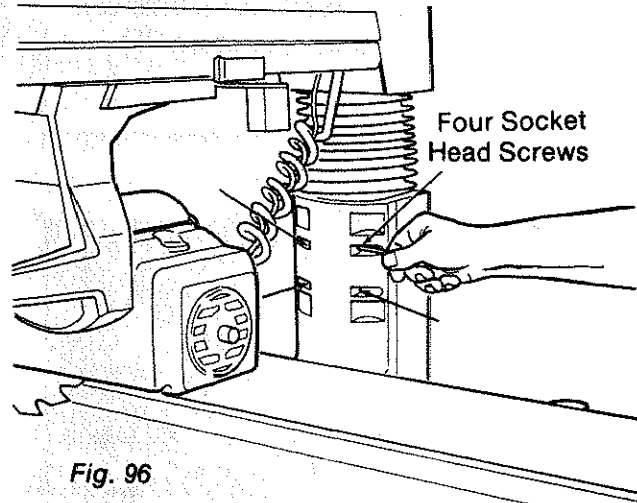

Fig. 96
1. Use a 1/8" hex "L" wrench to loosen the four screws in the front of the column support. (Figure 96)